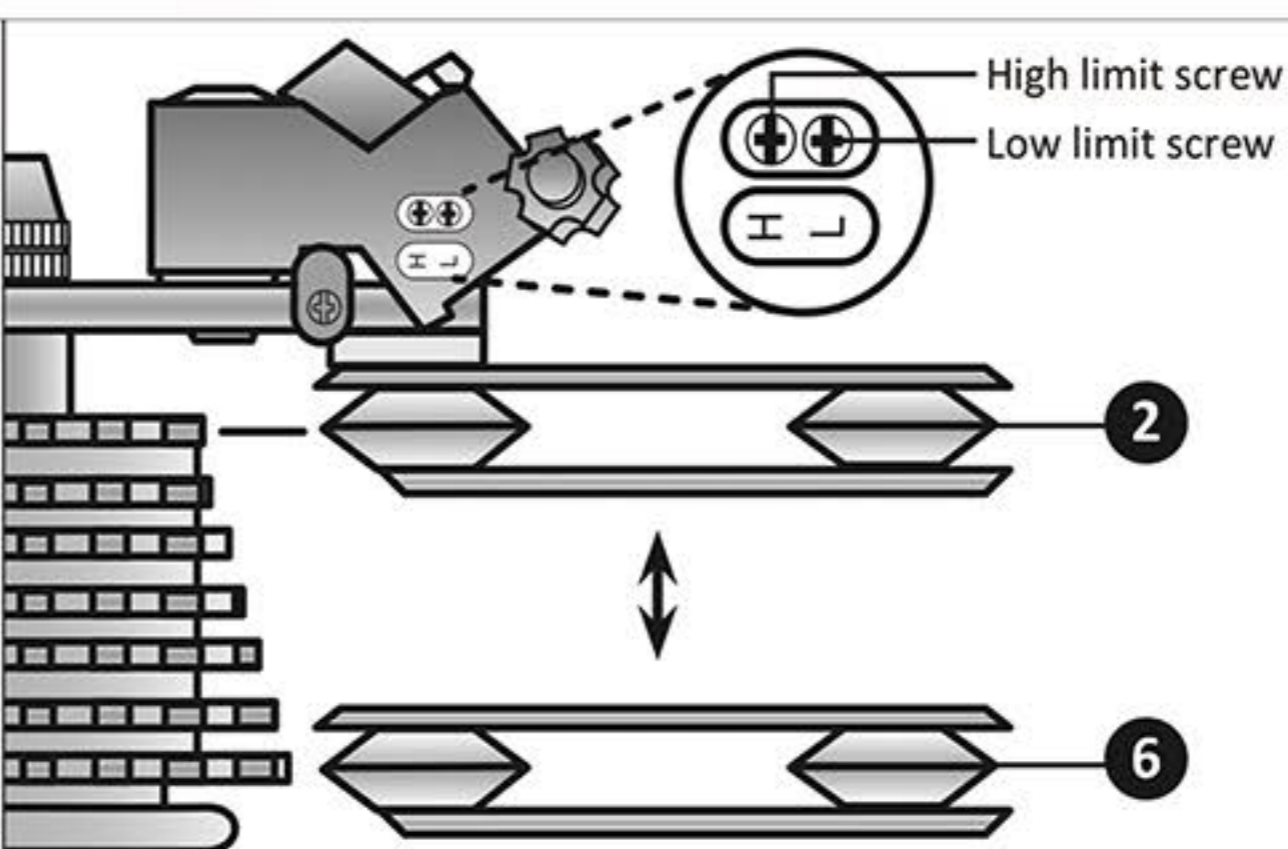

Figure 14.2
- ②. Adjust the high limit screw (H) so the guide pulley and the smallest sprocket are lined up. Figure 14.2
- ③. Reconnect the cable, pull out any slack, and retighten the anchor bolt securely.
- ④. Shift through the gears, making sure each gear achieved is done quietly and without hesitation. If necessary, use the barrel adjuster to fine tune each gear by turning it in the direction you want the chain to go. For example, turning clockwise will loosen the cable tension and move the chain away from the wheel, while turning counter-clockwise will tighten cable tension and direct the chain towards the wheel.
- ⑤. Shift the rear shifter to the gear one and place the chain on the largest cog.
- ⑥. Adjust the low limit screw (L) in quarter turn increments until the guide pulley and the largest cog are aligned vertically.
- ⑦. Again, shift through each gear several times, checking that each gear is achieved smoothly. It may take several attempts before the rear derailleur and cable is adjusted properly.